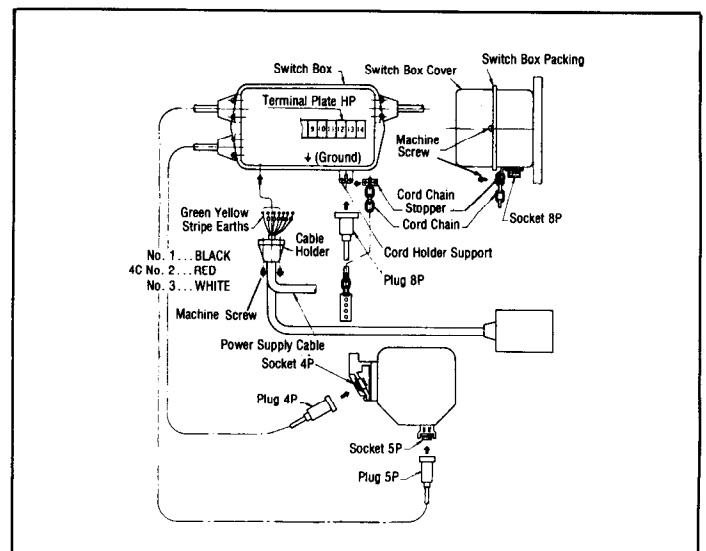

Fig. 8
- Install four button type pendant per Fig. 8 & 9.
- Wiring the motorized trolley switch box and the electric chain hoist per Fig. 8.